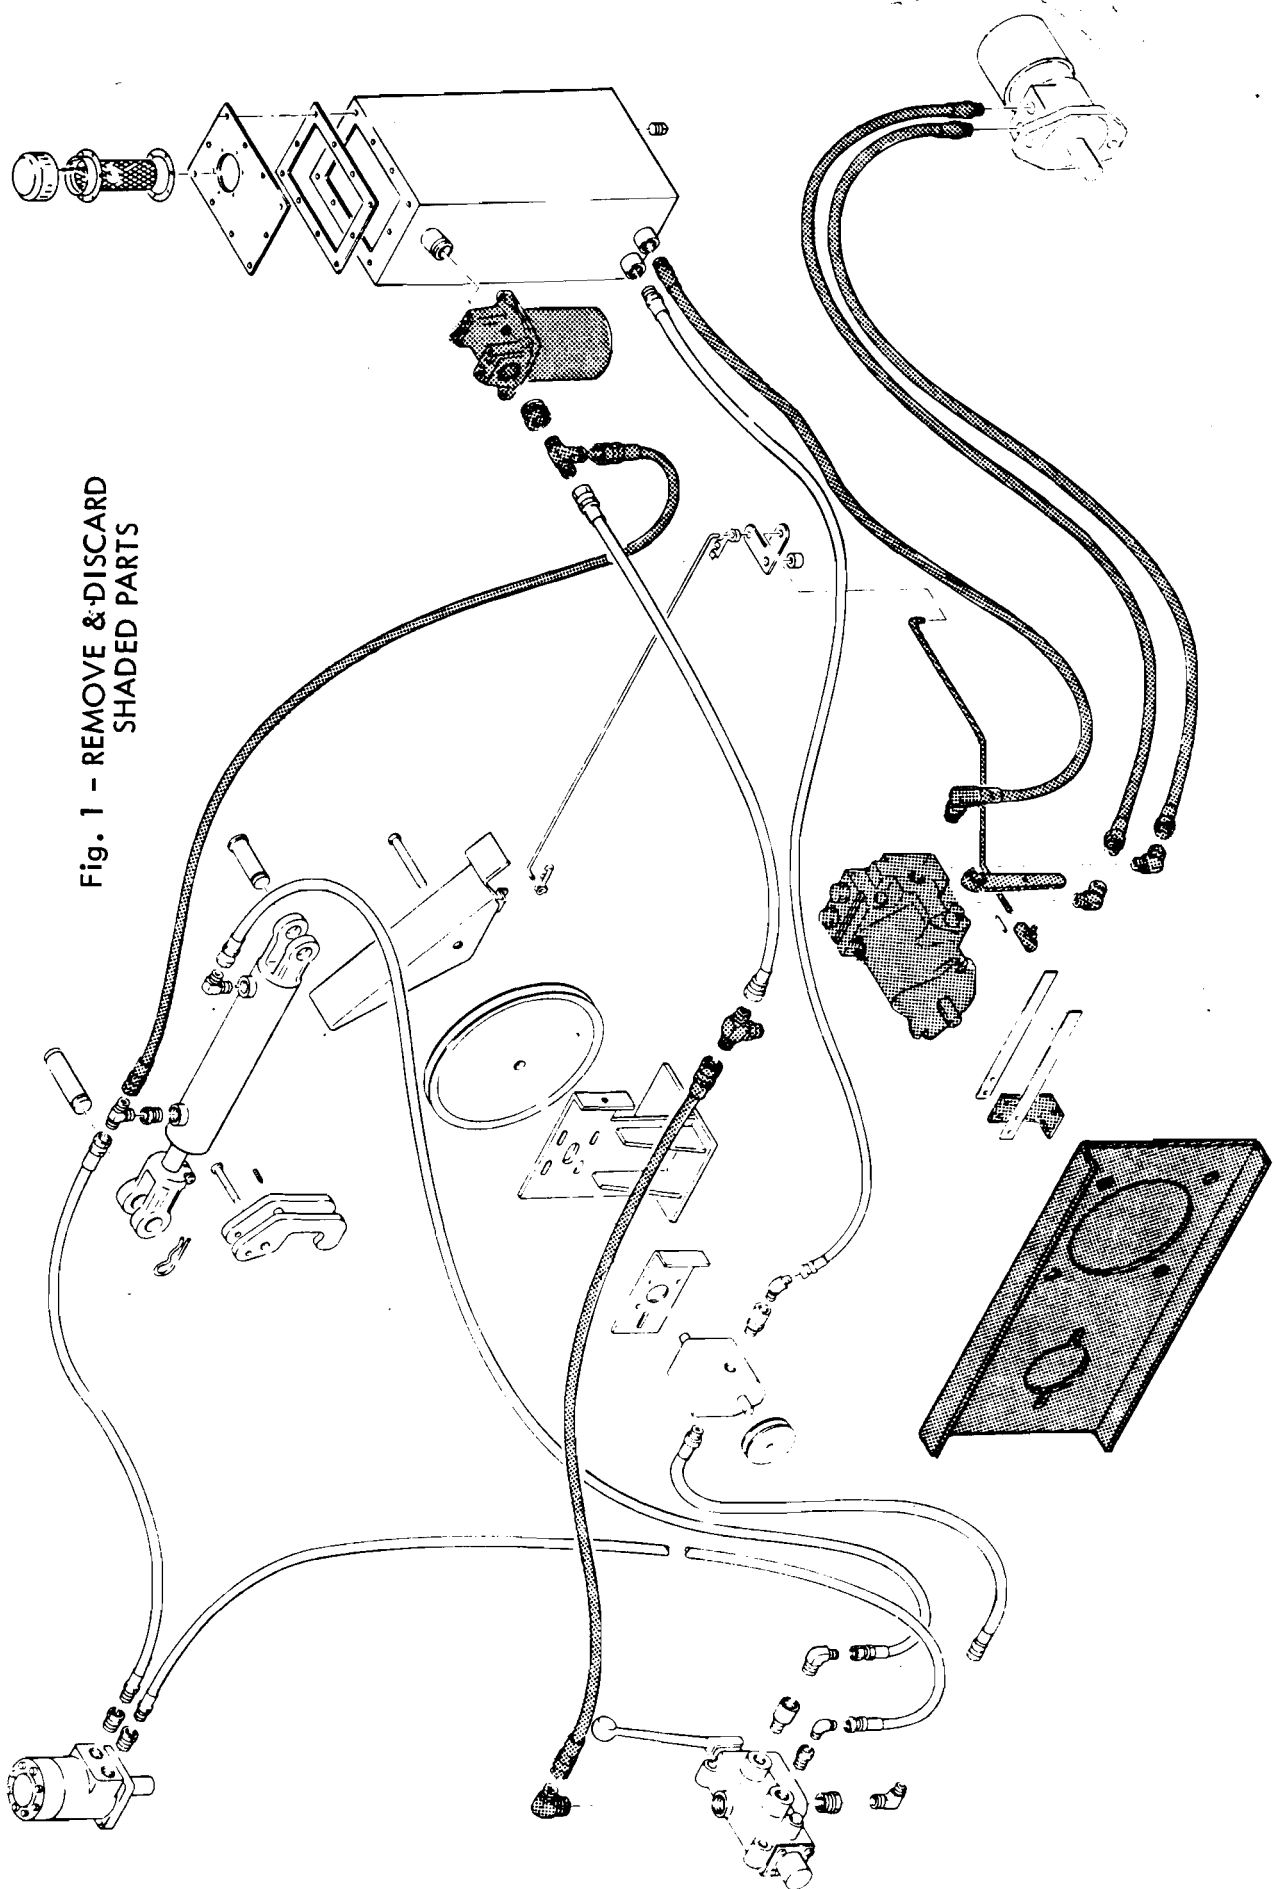

Fig. 1 - REMOVE & DISCARD
4. Remove and discard all parts indicated in Fig. 1. Save the propelling pump drive sheave and pump centering springs for reuse.